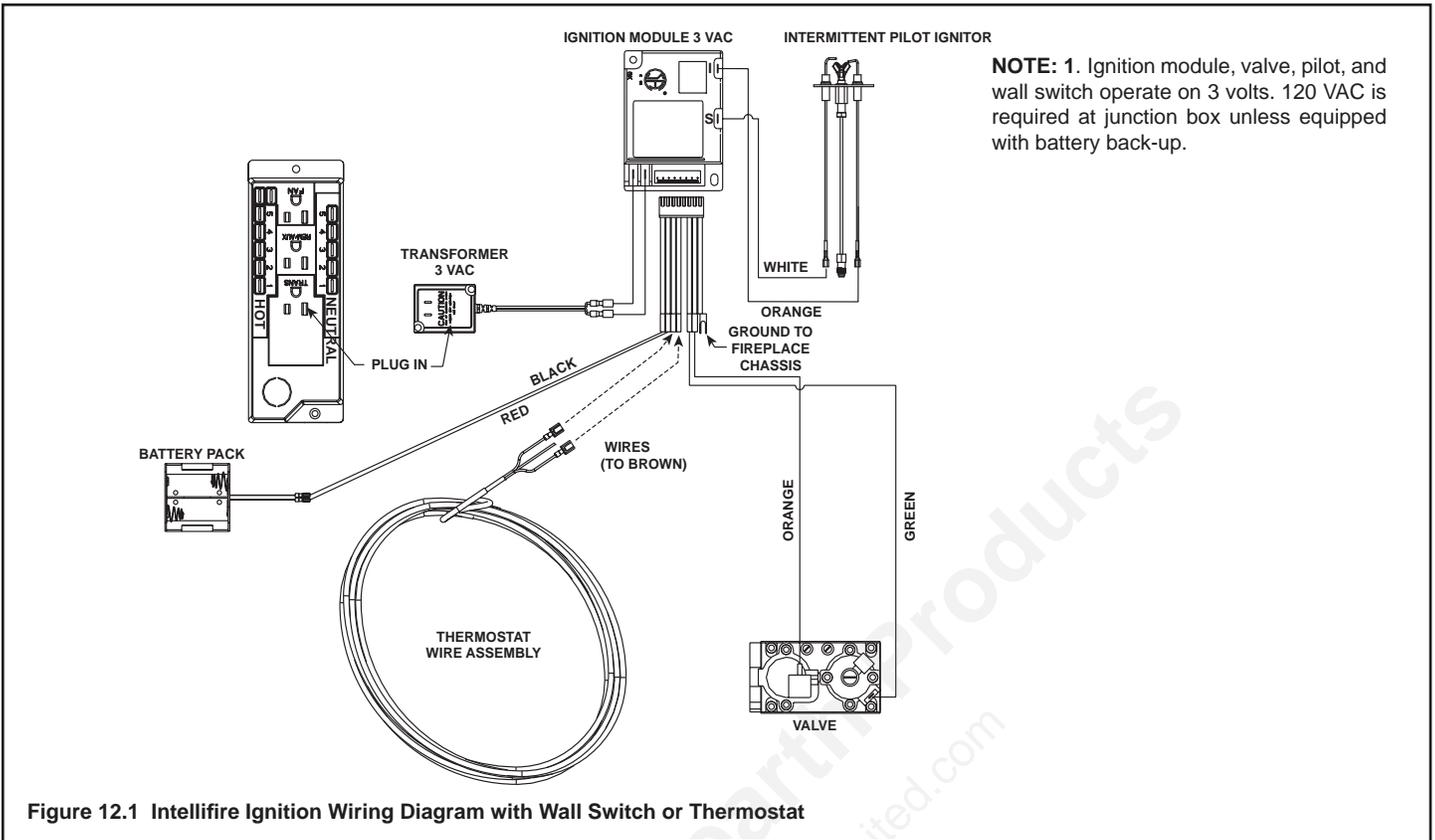

Figure 12.1 Intellifire Ignition Wiring Diagram with Wall Switch or Thermostat
- Refer to Figures 12.1 and 12.2, Intellifire Pilot Ignition (IPI) Wiring Diagram.